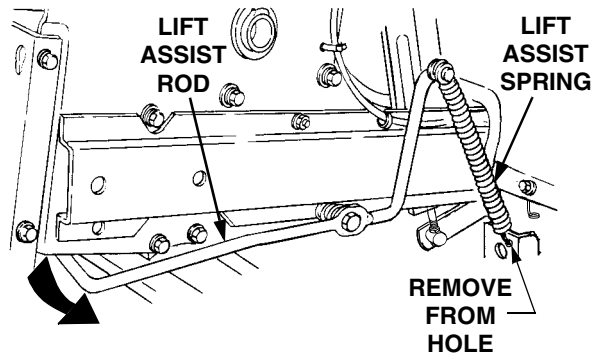

Figure 38
2. Raise the deck by moving the implement lift handle to its highest setting. From beneath the right rear fender, release the RH lift assist rod from the tractor frame by pushing down then outward on the rear end of the rod. Allow the lift assist rod to raise upward and disengage the lower hook of the lift assist spring from the hole in the right rear deck bracket (See Figure 38).